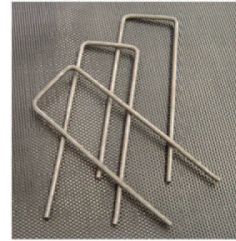

Figure 6: Securing Pin
4. Secure Pyramat® 75 with pins in the IC trench (Figure 5). Pins should be U pins with a minimum length of 150 mm and shall be made of mild steel with a 4 mm minimum diameter (Figure 6). Longer pins may be required for looser soils. Heavier metal stakes may be required in rocky soils. Suggested placement of pins for the IC trench is along the bottom of the trench with pins on 300 mm. Pins should also be installed on panel edge overlaps in the IC trench.